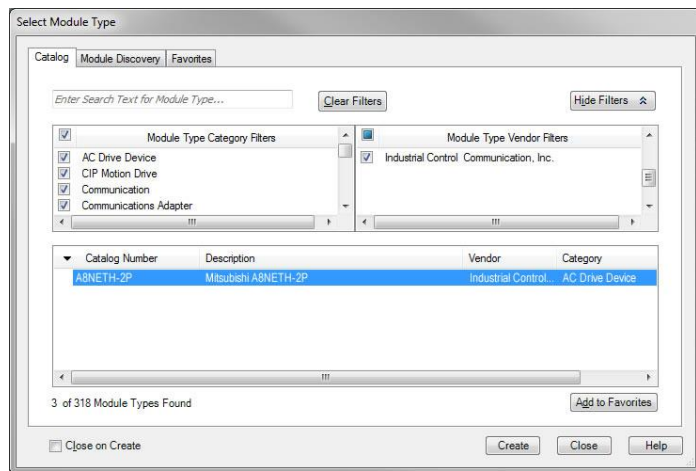

Figure 19: Adding a New Interface Card Module
11) Find the interface card in the “Select Module” dialog box as shown in Figure 19.